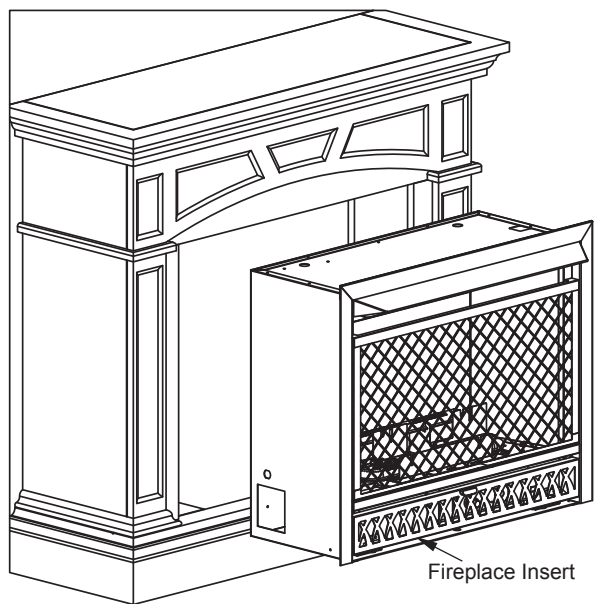

Figure 12
12. After assembling the mantel, carefully lift to the upright position. Push the fireplace insert from the front of the mantel as shown in Figure 12.